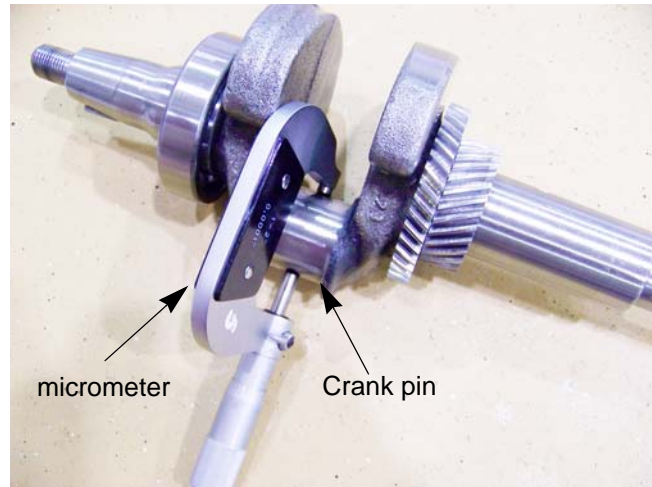

Figure 10.8
2. Measure the crank pin where the connecting rod attaches to the crankshaft using a vernier caliper or a micrometer. See Figure 10.8.